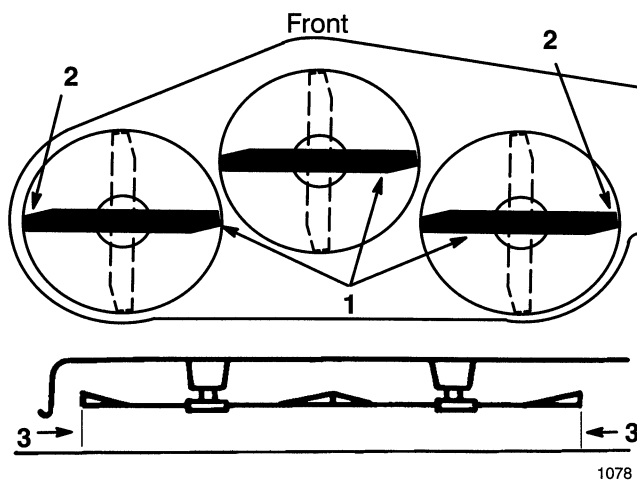

Figure 10
3. Carefully rotate blade(s) side to side (Fig. 10). Measure between the outside cutting edges and the flat surface (Fig. 10). If both measurements are not within $\frac{3}{16}$ " (4.762mm), an adjustment is required; refer to steps 4 and 5.